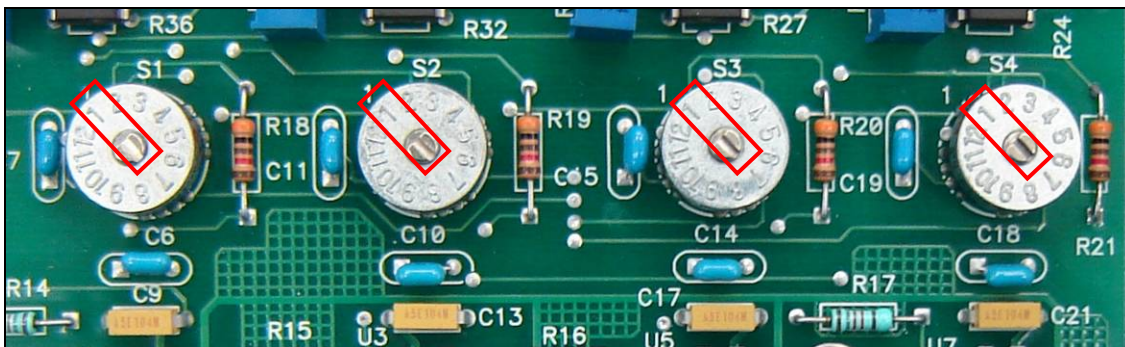

Figure 43: Multibrite® Intensity and Voltage Output Adjustment Switches
- Use the screwdriver adjustment tool provided in the accessory kit to adjust switches S1 (channel 1), S2 (channel 2), S3 (channel 3), or S4 (channel 4) to positions 1, 2 or 3 as needed. Figure 43 shows all switches in position 1.